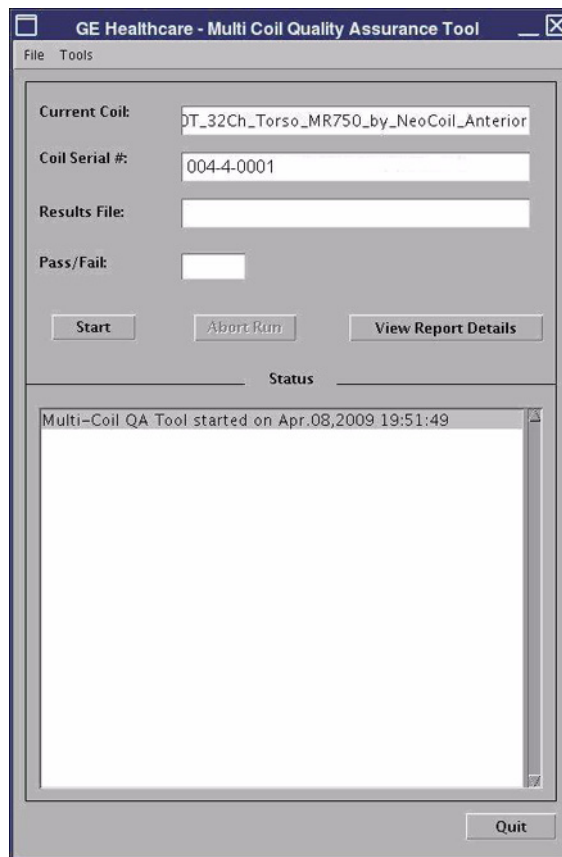

Figure 4-5 MCQA tool window with the anterior coil connected
- A pop-up window as shown in Figure 4-5 will appear with the 'Current Coil' field automatically filled in. Please wait for a few seconds if the field is empty.